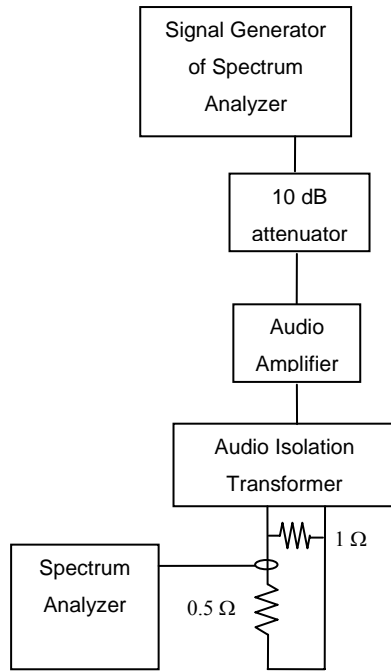

Figure 4-6: CS102 Calibration Set-Up for 10 kHz to 150 kHz
- 1) Set up the measurement equipment per Figure 4-6: CS102 Calibration Set-Up for 10 kHz to 150 kHz.